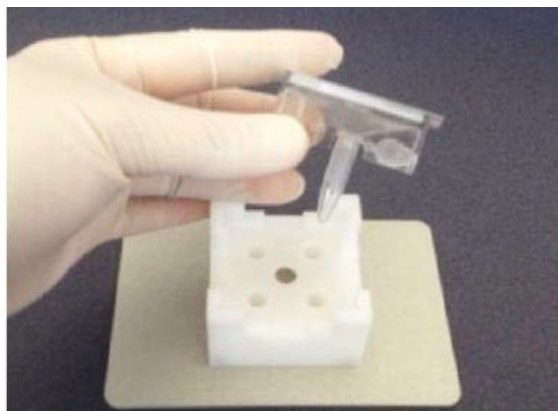

Figure 44. Removing the Collection Tube containing the cDNA eluent.
7. Carefully remove the Collection Tube containing the extracted cDNA (Figure 44, below).